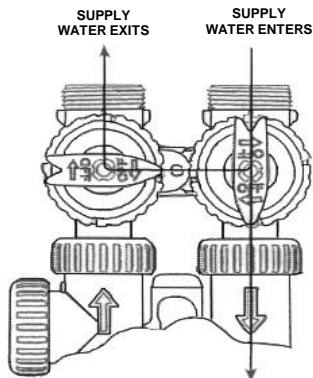

Figure 3
3. **Diagnostic Position:** The inlet handle points toward the control valve and the outlet handle points to the center of bypass valve. Untreated supply water is allowed to flow to the system and to the building, while not allowing water to exit from the system to the building (**Fig. 3**). This allows the service technician to draw brine and perform other tests without the test water going to the building.
4. The bypass is now in the diagnostic mode (*Fig. 3 on page 4*). Check to verify that water is being drawn from brine tank with no leaks or bubbles in the brine line. There should be a slow flow to the drain.